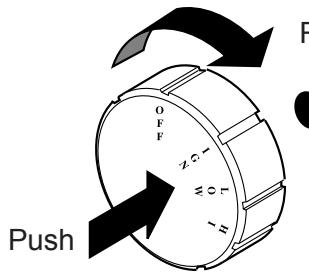

Figure 29 - IGN Position
6. From OFF position, push in gas control knob slightly and turn counterclockwise  to the IGN position. See Figure 29. Push in and hold control knob for 5 seconds.